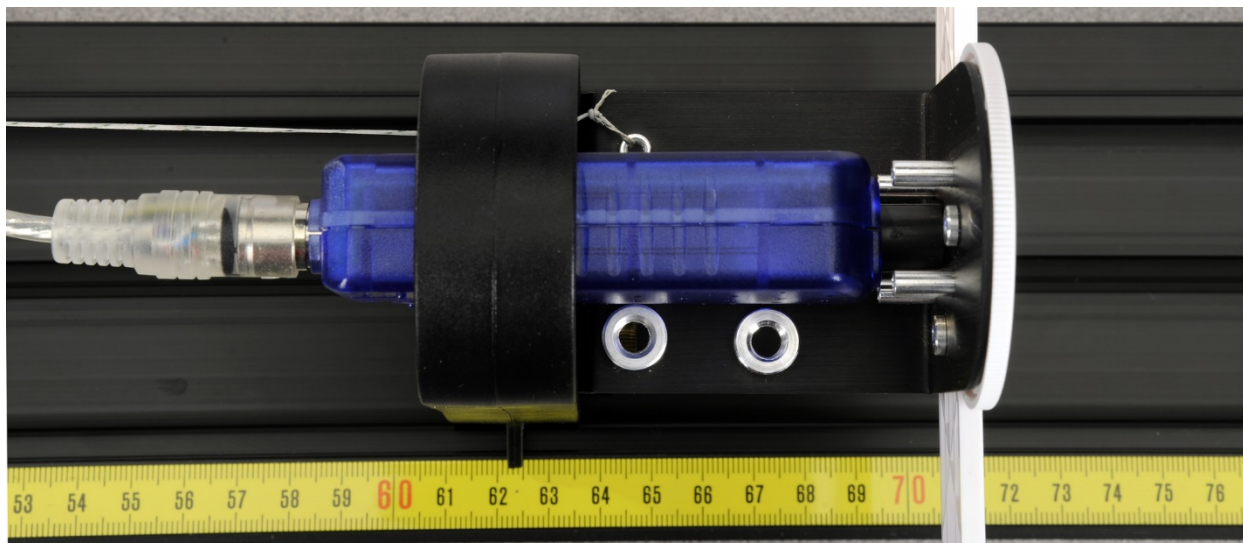

Figure 2: Tying the String to the Light Bracket
1. Set up the equipment as shown in Figure 1. The thread is attached to the Aperture Bracket by tying the string through the hole as shown in Figure 2 and passes over the large pulley on the Rotary Motion Sensor to a hanging 10 g mass. The thread must be long enough so the white Aperture Disk can be 15 cm from the point source, but should not hit the floor when the Aperture Bracket is moved back as far as possible on the track. The thread should be horizontal and aligned parallel with the track but need not be centered on the Aperture Bracket. The Rotary Motion Sensor should be set so the thread is aligned with the pulley groove and does not pull sideways on the pulley.